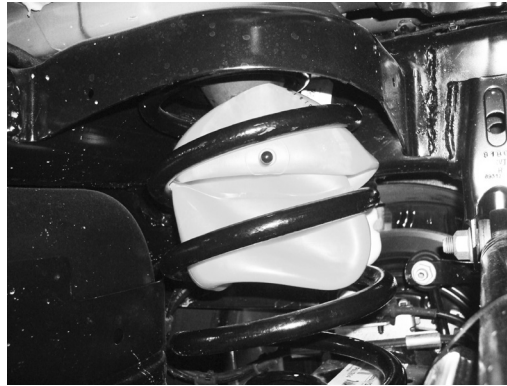

fig. 3
3. Insert the flattened air spring into the coil spring through the side. Make sure the stem is pointing up (Fig. 3). When the air spring is completely within the coil, remove the cap and allow the air spring to assume its as-molded shape.